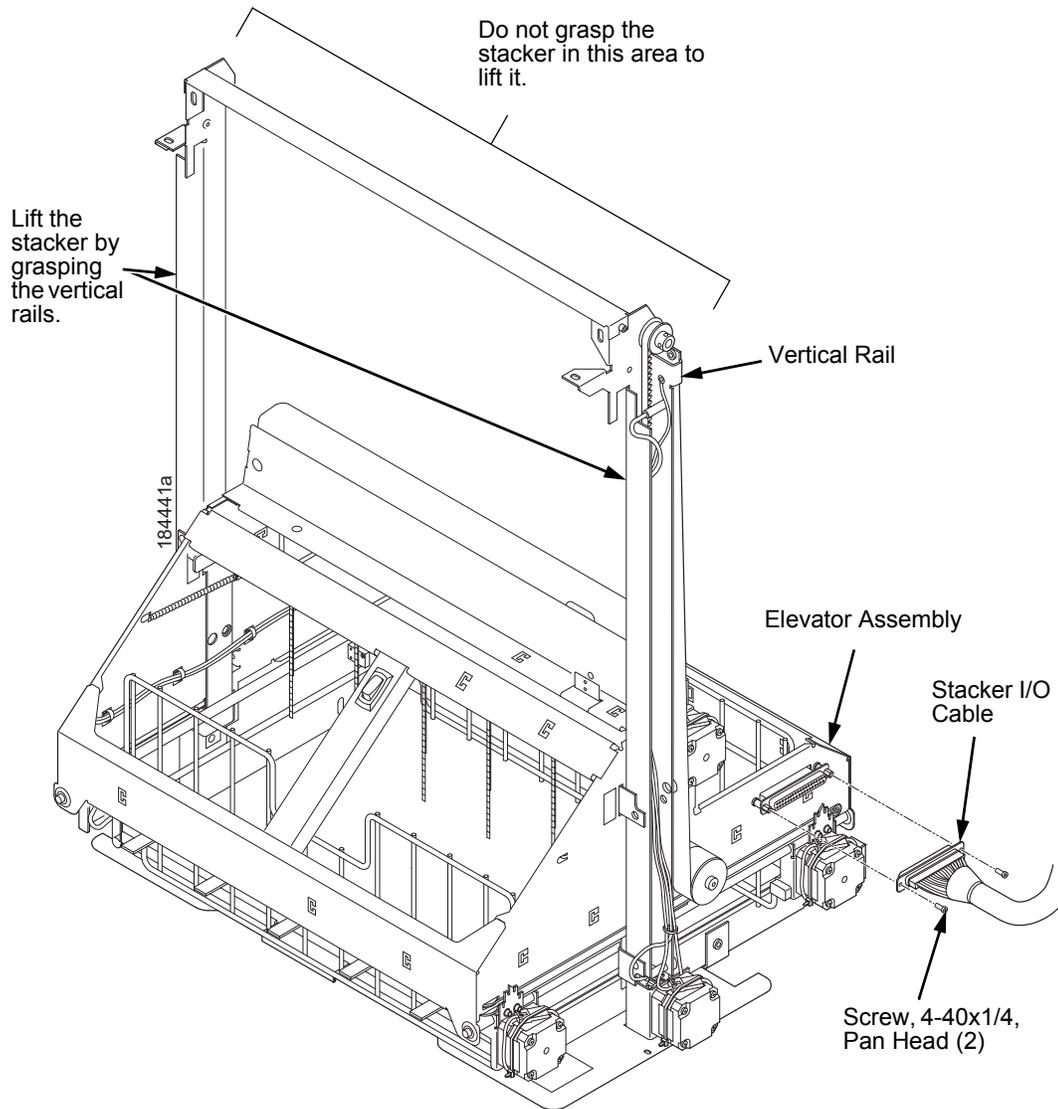

Figure 10. Disconnecting the Stacker I/O Cable
12. Remove the two 4-40 x 1/4 inch screws securing the elevator I/O cable to the elevator assembly and disconnect the stacker I/O cable. (Figure 10.)